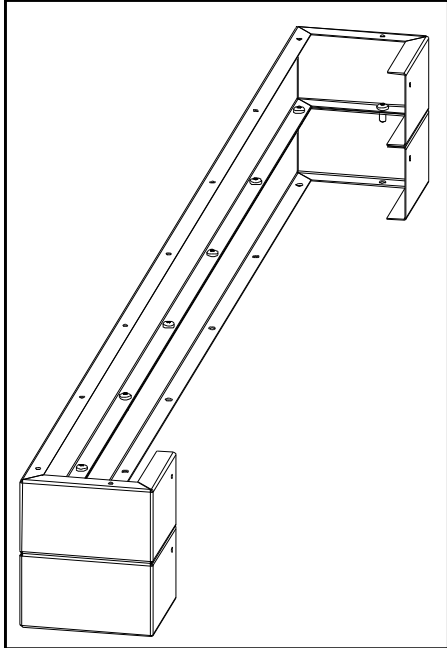

Figure 35: Combining 2 Base Shelf Risers.
2. When using more than one riser each level must be attached using nine (9) #8 T-20 screws provided (see Figure 35).